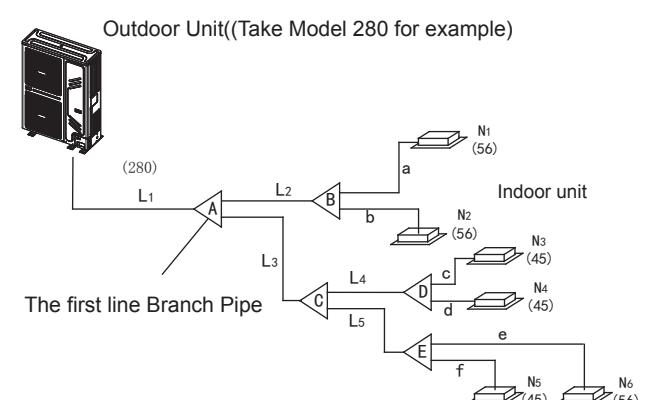

Fig.4-6
- Main pipe (Please refer to Fig.4-6 and Table 4-4)
In Fig.4-6, the main pipe L1, the outdoor unit capacity is 28kW, and check the Table 4-4 to get the size of gas pipe/liquid pipe is $\Phi 22.2/\Phi 9.5$, and also the total equivalent length of liquid side and gas side pipes is $> 90m$, then check the Table 4-4 to get the size of gas pipe/liquid pipe is $\Phi 25.4/\Phi 12.7$, and according to the maximum value principle, it should apply the $\Phi 25.4/\Phi 12.7$.